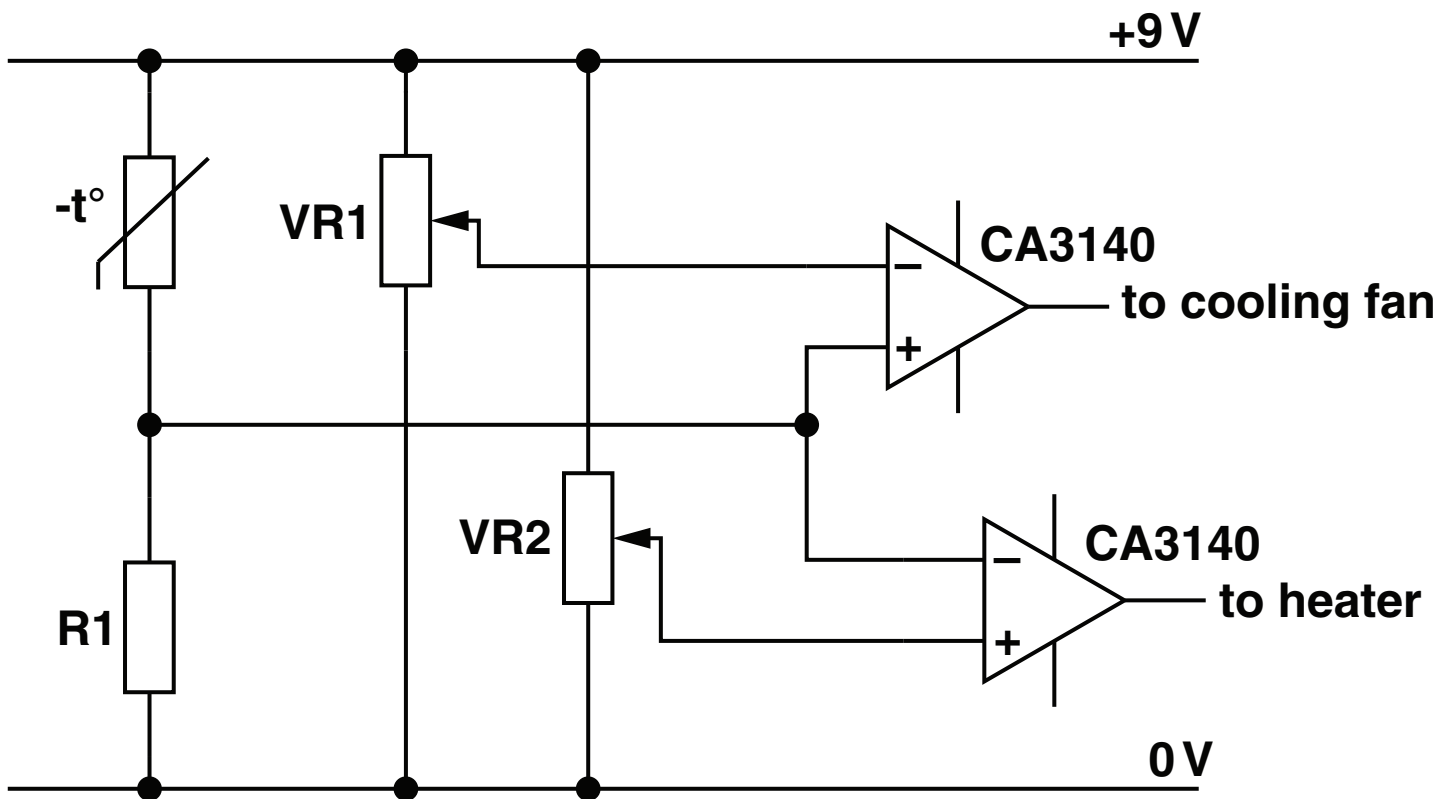
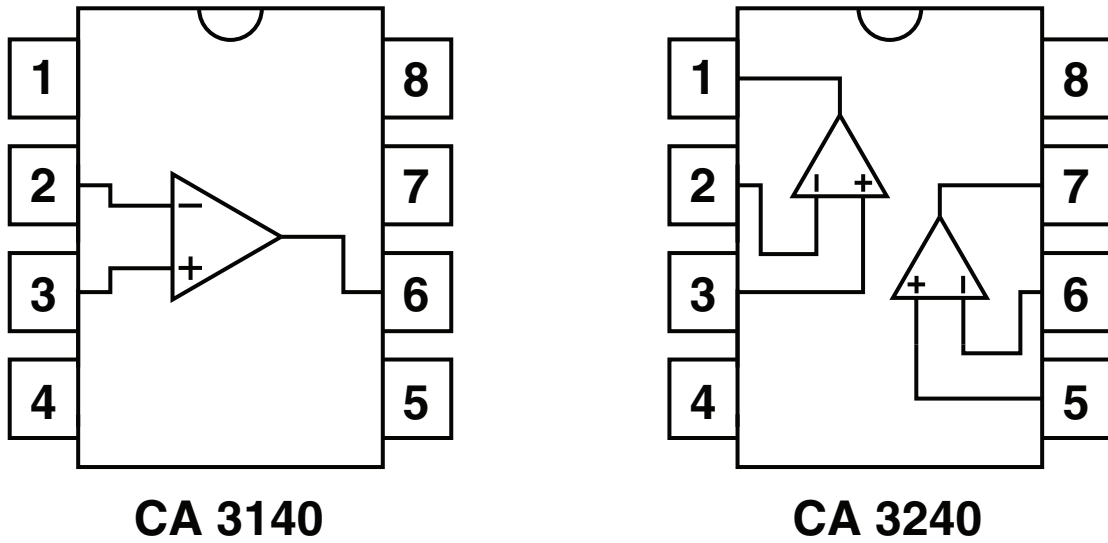

Fig. 10
Fig. 11
(b) The signal from the thermistor is taken to TWO comparators as shown in Fig. 10.
- (ii) It is found that a double comparator IC is available to replace the single version specified in Fig 10. Two versions of the IC are shown in Fig. 11.
State the reason for using the multi-turn preset resistors as VR1 and VR2 in Fig. 10.